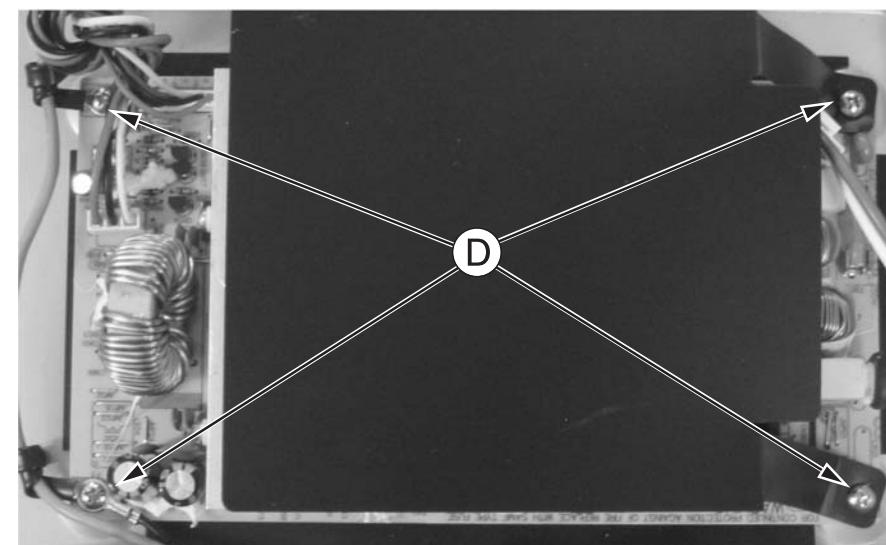

Figure 5
- 1) Loosen 5 screws " D " on the top of power board as shown in figure 5.